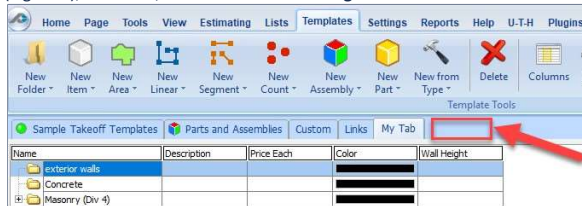

Figure 1
1. The next steps will cover the **Types** (without the underscore) **Items**. These **Types** are custom types that are added by customers or developers who need to add additional functionality to the default class **Items** without having the need to go in and change the default properties. When working with **Types**, developers would not use the Under-the-Hood (U-T-H) tab, but would instead go to the **Templates** tab, then the **Types** tab. **Types** may not be visible from the **Templates** tab ribbon menu (Figure 1); if it is not, then first click on **Settings** on the **Main Menu** ribbon bar.